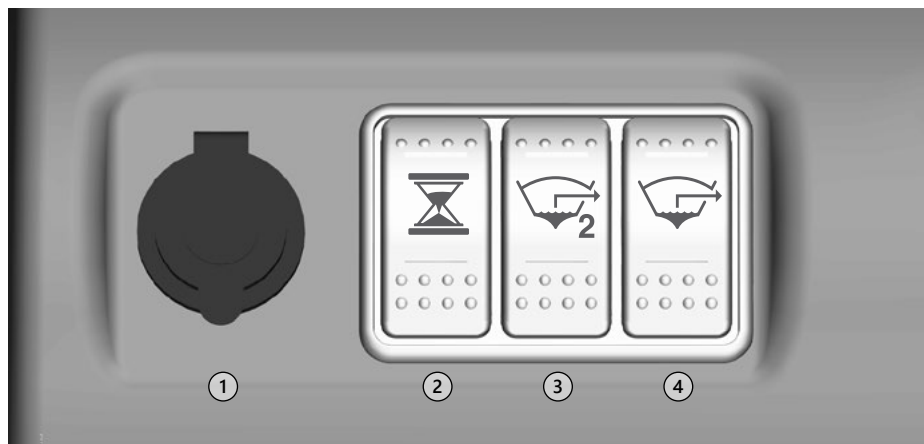

Fig. 6. Functions of keys of an additional electric control panel.
To put the livewell in a recirculation mode, press key 3 on boat's additional electric control panel. Fig. 6 page. 12